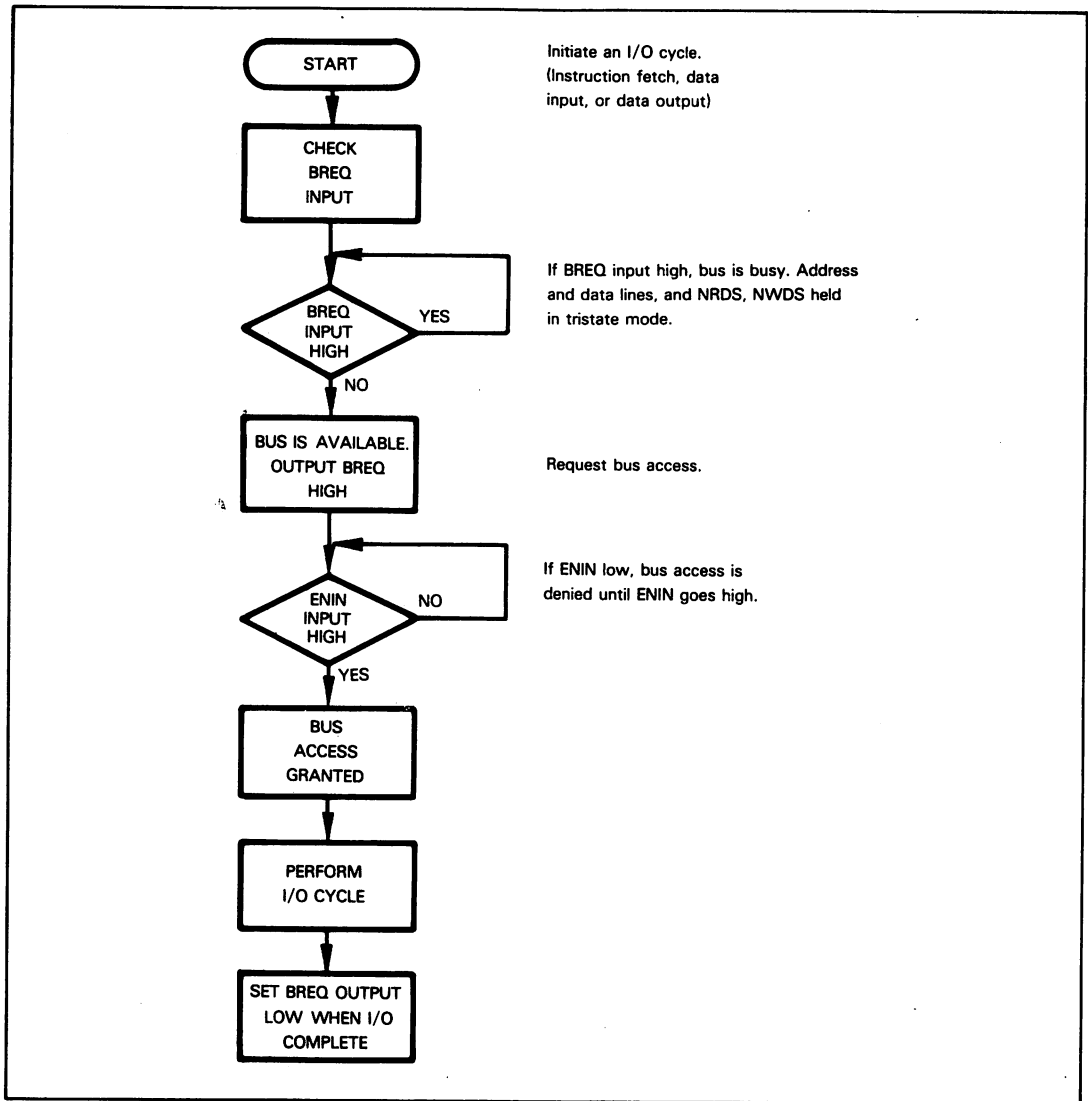

Figure 3-3. SC/MP Bus Access Logic Processing Sequence
There are two versions of the SC/MP CPU: the original version uses P-channel silicon-gate MOS/LSI technology and its part number is ISP-8A/500; the new version (SC/MP-II) uses N-channel technology and its part number is ISP-8A/600. The two versions are functionally equivalent and fully compatible in terms of object code and pin configuration. (A few minor signal level conversions are required for complete signal compatibility: see Figure 3-3.) **The SC/MP-II provides some significant advantages over the original version — it is twice as fast and uses only one-fourth the power of the original P-channel version. Additionally, while SC/MP requires two power sources (a +5 volt and a -7 volt supply), SC/MP-II needs only a single +5 volt supply.** Throughout this chapter, we will simply refer to the CPU as SC/MP: all the descriptions apply to both versions of the CPU unless we specifically mention SC/MP-II.
Figure 3-3 illustrates the bus access logic processing sequence that occurs whenever the SC/MP CPU is going to perform an input/output cycle.
There are a couple of aspects of the bus access sequence which are not revealed by Figure 3-3.
**If you refer back to Figure 3-3 once again, you will notice that there is no mention of the third SC/MP bus access control signal — ENOUT.** This is not an oversight — it is simply due to the fact that the ENOUT signal performs a rather specialized function which is not necessary to an understanding of the SC/MP bus access logic. **The primary function of the ENOUT output signal is as an enabling signal in systems where a "daisy chain" technique is used to establish priorities for bus access.** We will defer a discussion of this use of ENOUT until later in this chapter when we discuss the use of SC/MP in multiprocessor and DMA systems.